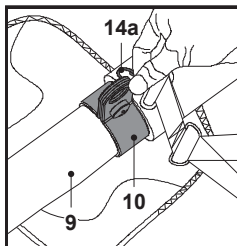

Fig. 12
The battery pack (19) is equipped with the battery capacity indicators (19a) which are used to give an indication of the battery pack's remaining capacity. Press the battery capacity button (19b) to check battery capacity (Fig. 12). The LEDs will stay lit for approximately 5 seconds.
3. Adjust the length of the harness (14) so that the securing clip (14a) is approximately 15 cm below your waist.
4. Attach the securing clip (14a) to the loop the suspension sleeve (10) (Fig. 12).